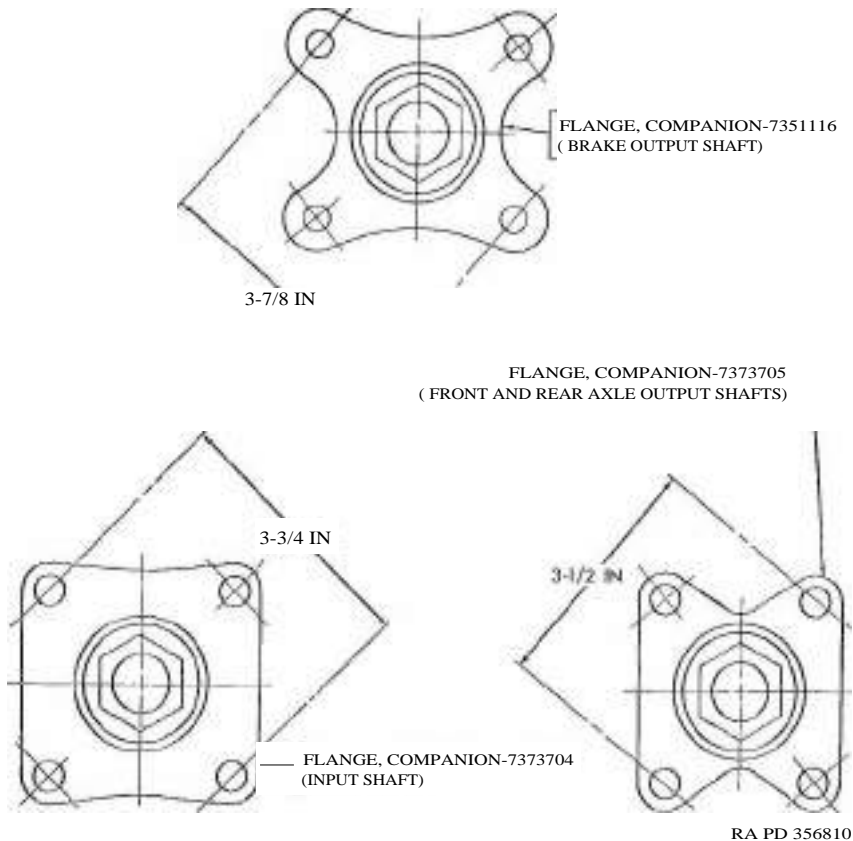

Figure 129. Companion flange dimensions.
Note. The transfer assembly is equipped with three different companion flanges and it is important that each flange be installed in its proper location. The correct flange for each location can be determined by measuring the distance between bolt holes (fig. 129).
d. Install Front Bearing Cone on Output Shaft. Install front bearing cone (U) on output shaft with an arbor press. Make certain the bearing cone is firmly seated against gear.
- (1) Lubricate bearing cones with universal gear lubricant (GO).
- (2) Position shaft spacer (S) and bearing shims (N, P, Q, and R) on output shaft with integral gear (V). If new bearing shims are required, start with a 0.0365-inch shim pack, consisting of one each 0.004-, 0.005-, 0.0125- and 0.015-inch thick shims and check adjustment of bearing. Refer to *f* below.
- (3) Install output shaft with integral gear (V) in bearing retainer (M). Install rear bearing cone (H), companion flange (F), 29/32 ID, 1% OD, plain washer (E), and ~~7/8-16NC~~ slotted nut (D). Refer to figure 129 for dimensions of correct companion flange.
- (4) Clamp companion flange between copper jaws of a vise and tighten slotted nut to 140 to 160 pound-feet torque with a torque indicating wrench and socket.